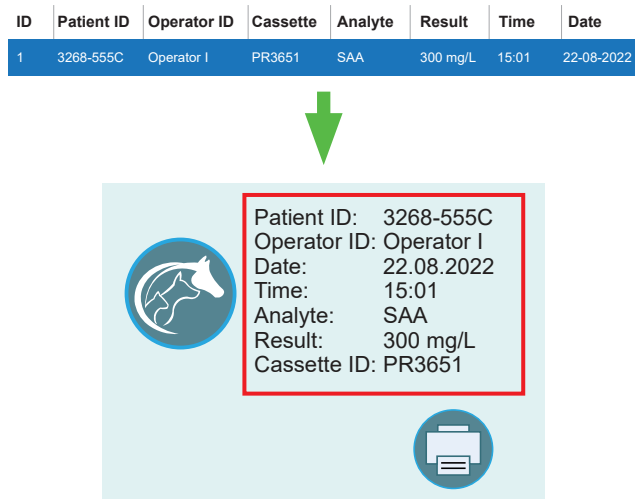

Figure 31. Retrieve a detailed view of a specific result
1. To retrieve a detailed view of a specific result, tap on the specific data. See Figure 31.
3. Tap on the Print icon. See Figure 31.